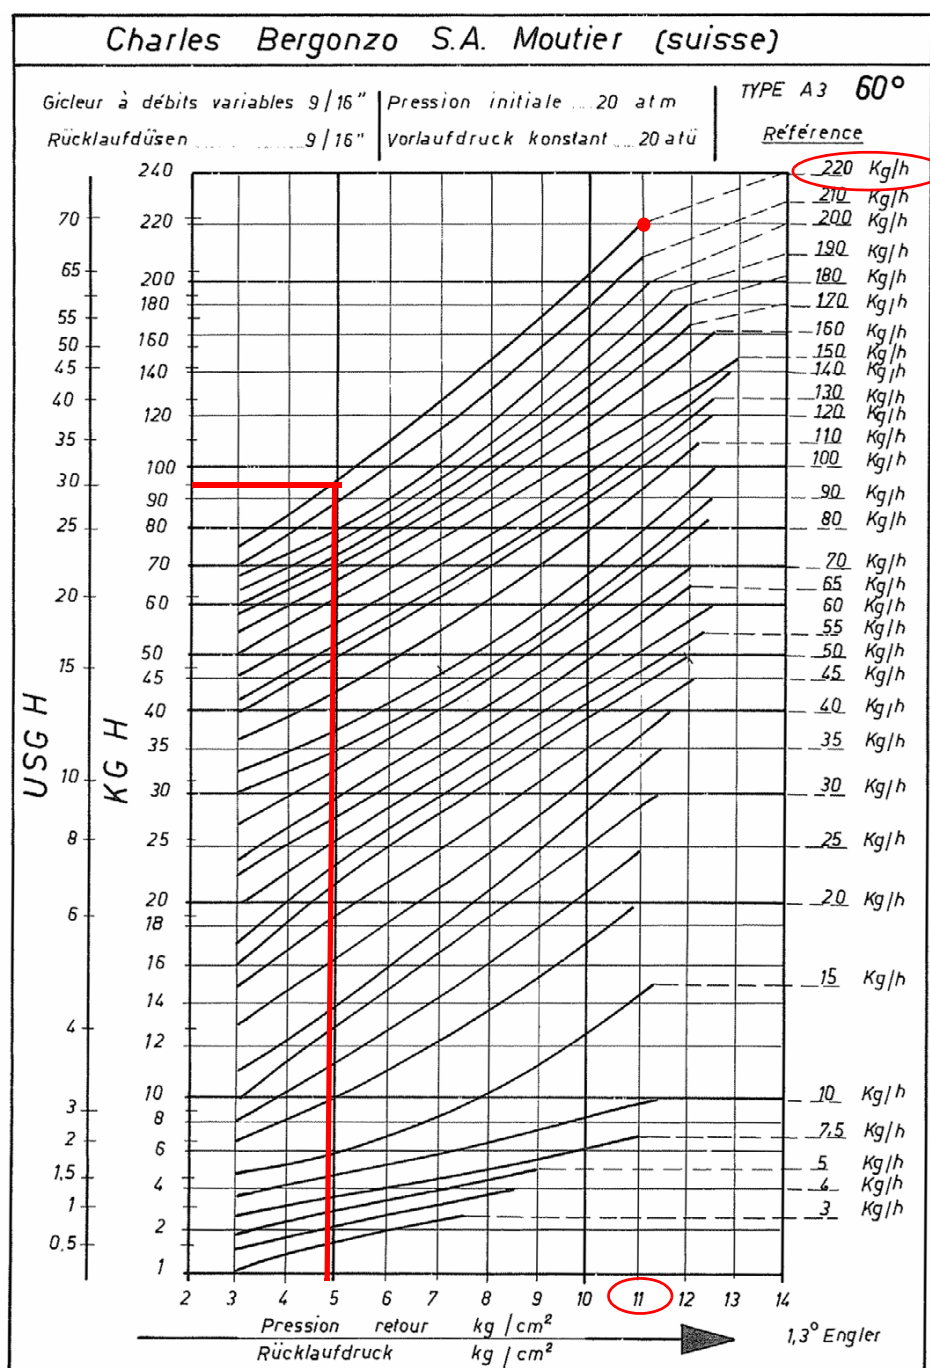

Fig. 9
The light oil flow rate can be adjusted choosing a by-pass nozzle that suits the boiler/utilisation output and setting the delivery and return pressure values according to the ones quoted on the chart below and the diagram on Fig. 9-Fig. 32 (as far as reading the pressure values, see next paragraphs).
**Example (Bergonzo):** if a 220kg/h flow rate BERGONZO nozzle is provided, set the return pressure at 11bar, supply at 20bar on the delivery to get a 220kg/h flow rate. If the return pressure needed is 5bar, instead, act on the V adjusting screw on the pressure governor (see chapter on page 28). The flow rate will then be about 95kg/h (see the example showed on the Bergonzo diagram-Fig. 9).